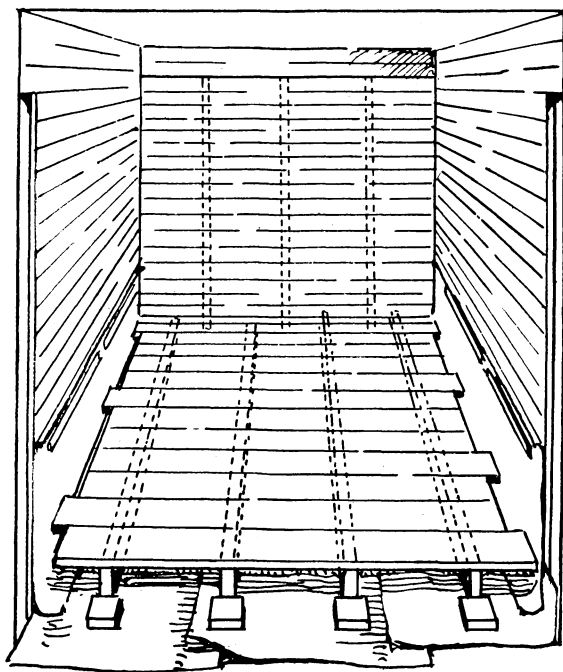
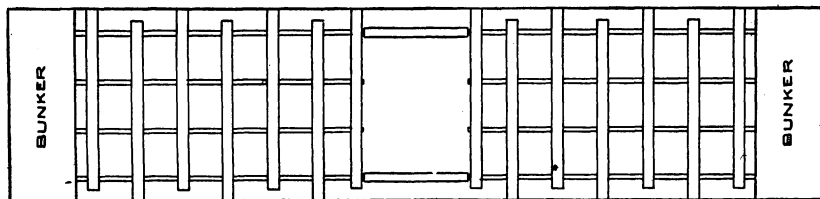

FIG. 16.—False floor (option "b" of paragraph 8) and end wall in produce car.
FIG. 17.—False floor supports (option (a) of paragraph 8).
6. Nail 2 by 4 by 4 inch blocks securely to the car floor at the end of each stringer (fig. 16), or nail 2 by 4's running lengthwise of the car across the doorway, the ends fitting tightly between two or more pairs of the false floor stringers (figs. 17 and 18). *Caution.*—Do not run a strip across the ends of the stringers from side to side of the car. This is a very common cause of uneven heating, as it blocks a large portion of the warm air circulation.
7. Nail 1-inch boards to the studding at the end of the car (fig. 16). These boards should form a solid, tight false wall from the floor stringers to the top of the studding and should extend to about 8 inches below the ceiling. If the potatoes are to be shipped in bulk, the false end walls must fit tightly against the car side walls (fig. 16).
8. (a) Nail sufficient 1-inch boards, or thicker, across the stringers (fig. 17), spaced to support the false floor; or (b) make the false floor entirely of one layer of boards crosswise on the stringers as illustrated in figures 16 and 18, in which case no space should be left between the boards. Cars already equipped with 4-inch false floors with stringers running lengthwise do not require, of course, any additional false floor.
9. If option (a) in paragraph 8 above is used, nail lengths of $1\frac{1}{2}$ inch boards on the supports (fig. 17), making a tight, false floor from the false end wall to about even with the doorposts.
If the potatoes are to be shipped in bulk, the false end walls must fit tightly against the car side walls (fig. 16).
4. Fit a 2 by 4-inch piece as a brace between each of the two sets of stringers described in the last sentence of paragraph 3. (Figs. 17, 18, and 21.) These braces should be laid with the 4-inch side flat on the floor and the ends securely toe-nailed to the stringers. Do not nail these to the floor.